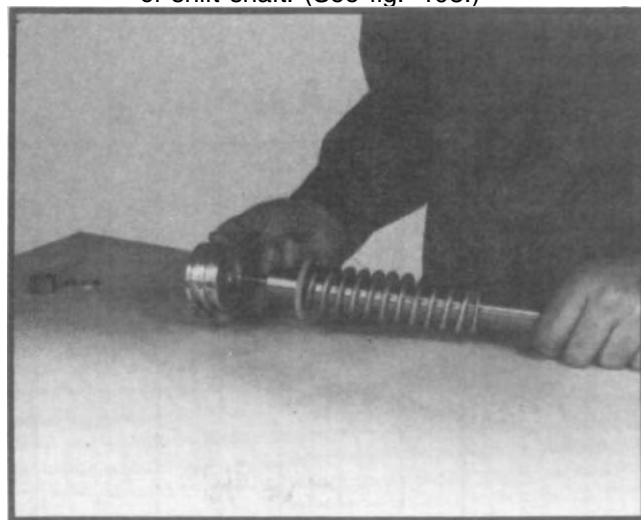

Fig. 194
6. Place spring and stop ring over shaft and place piston over shift shaft with the shallower of the two grooves toward shaft. (See fig. 194 and fig. 167.)